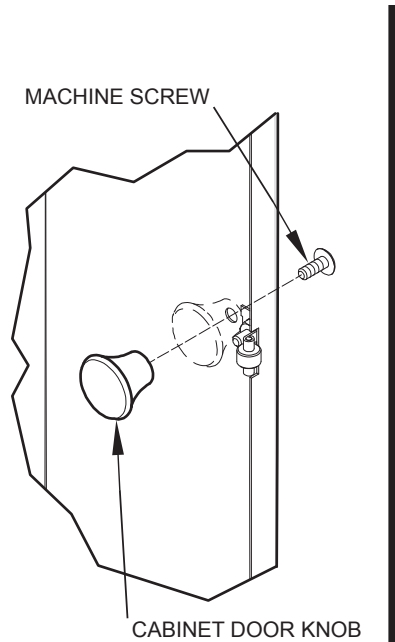

Fig. 10
1. Remove the machine screw and door knob (Fig. 10).